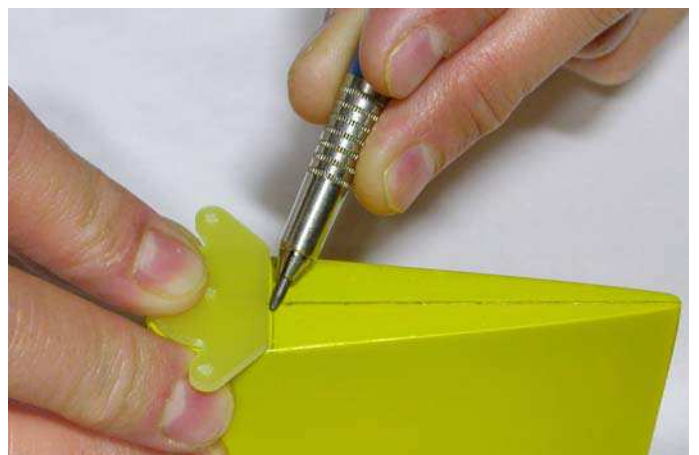

Fig.37: .Mark the position of the horn.
- using a pencil, mark the position of the horn (see figure 37);